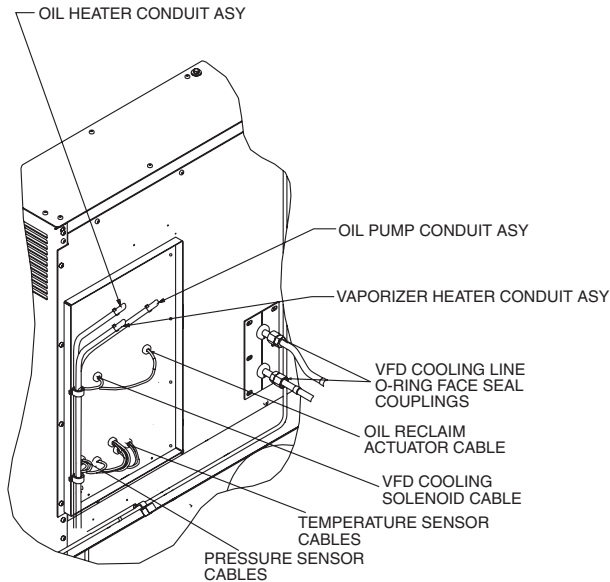

Fig. 20 — Control Panel Back
10. Disconnect the VFD cooling lines (Fig. 20) and cover all openings.